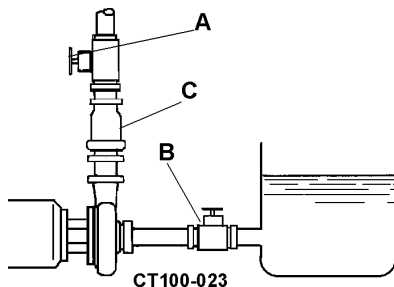

Figure 22 - Pump Below Supply
1. Fill supply tank with liquid; open supply line valve (suction) (Figure 22, item B).
2. Vent any air trapped in supply line or casing by opening the discharge valve. (Figure 22, item A).